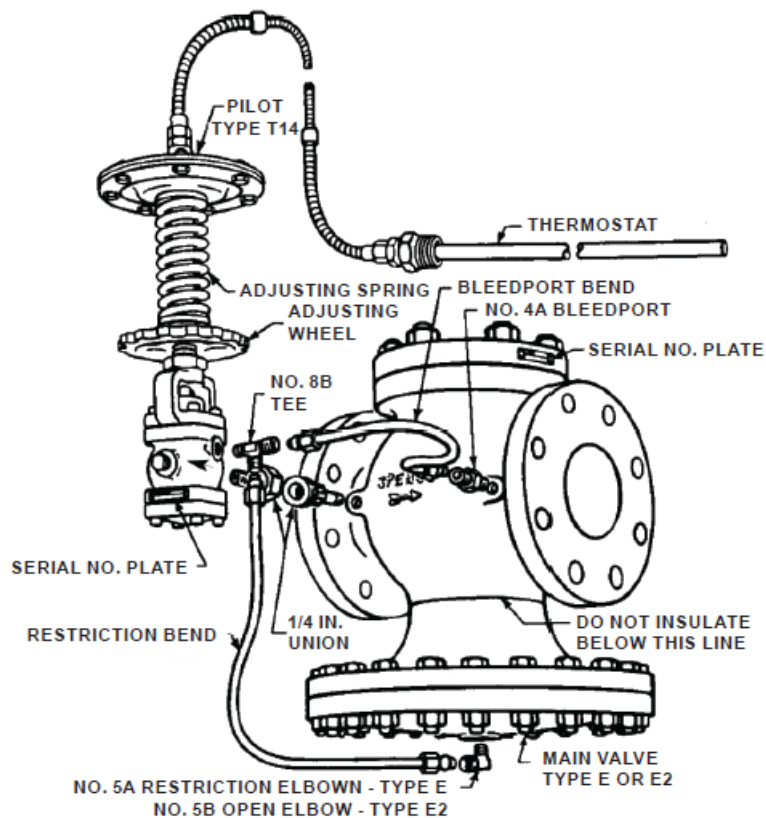

Figure 3. Type T14 Tubing Bends Connection
2. Connect the 1/4 in. / 6.35 mm pipe tap at the inlet side of the main valve as shown in Figure 3.
6. Connect tubing bends as illustrated in Figure 3. Valves with condensation chamber are fitted up according to
1. Use 1/4 in. / 6.35 mm pipe for this line which connects the pilot pressure diaphragm chamber (Figure 3) to the desired point of pressure control.